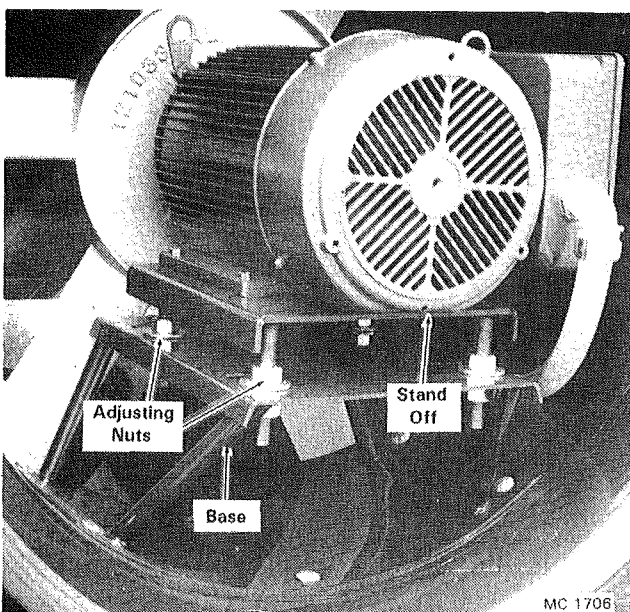

Figure 6
2. To adjust fan clearance, loosen the four locknuts under the motor base and turn the adjusting nuts on top to raise or lower the motor. See Figure 6. The holes in the base are slotted to allow for side to side adjustment. Tighten locknuts after adjustment has been completed.